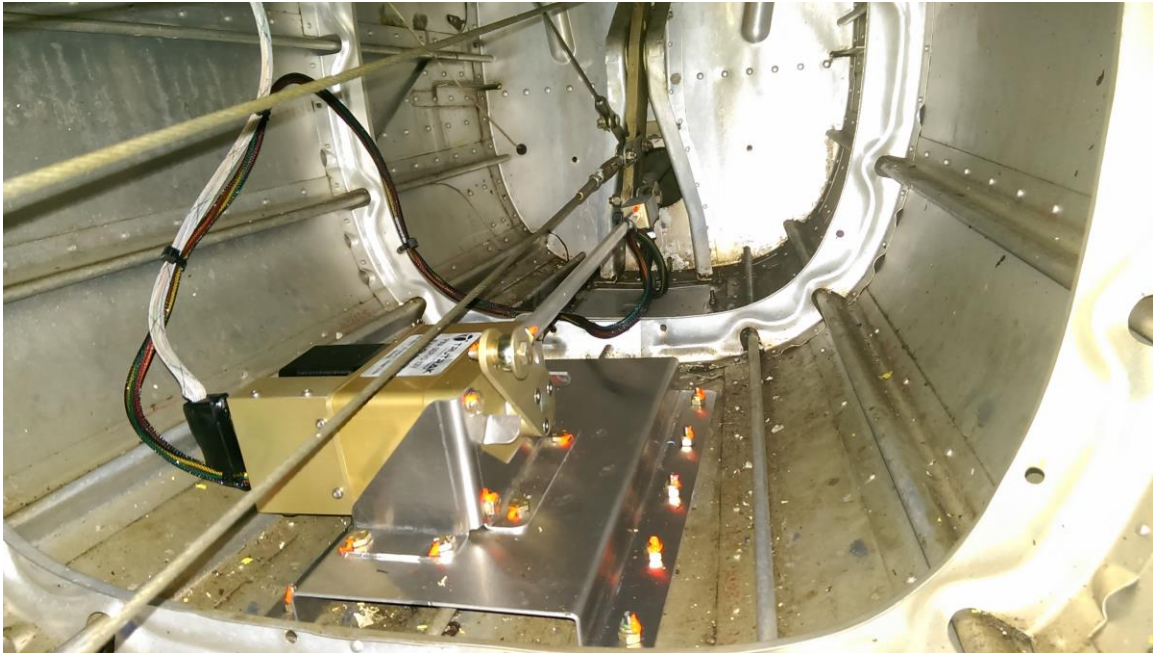

Figure 3-11
1. The pitch servo will be mounted in the aft fuselage as shown in Figure 3-11.